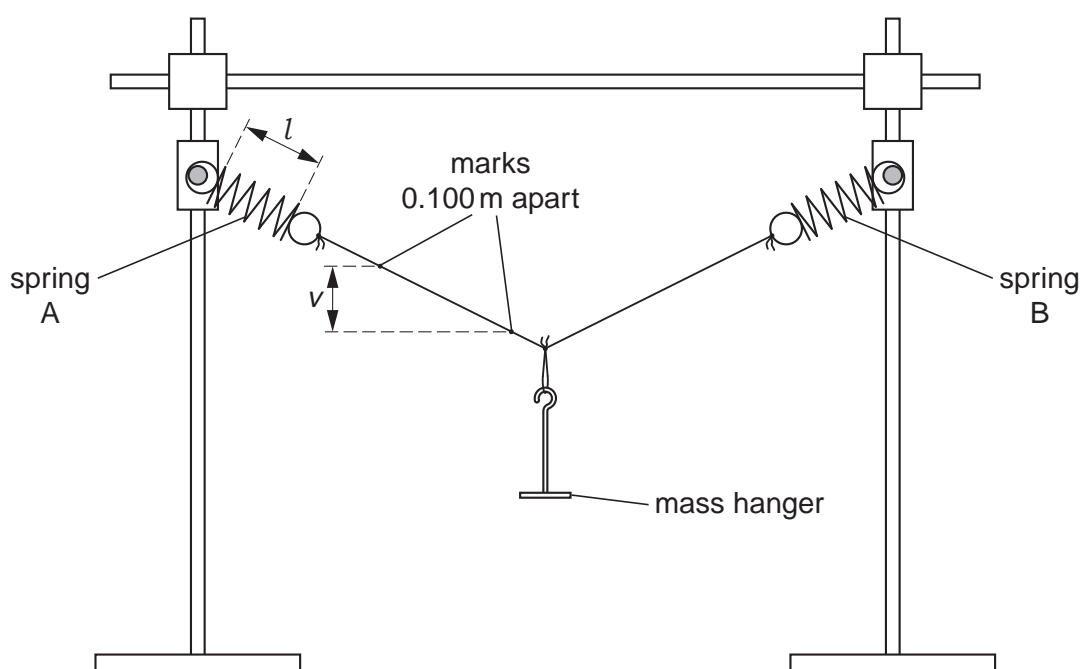

Fig. 1.1
Complete the assembly by suspending the mass hanger (with no masses on it) from the central loop, as shown in Fig. 1.1.
- (b) (i) Measure the length l of the coiled section of spring A, as shown in Fig. 1.1.
- (c) Measure the heights of the marks above the bench and use these to find the vertical separation v of the marks (see Fig. 1.1).